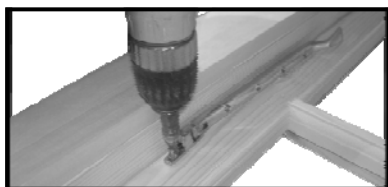

Fig A4
8. At the bottom of each window place a casement stay on top of the draught excluder strip. Visually judge the position of the stay so it looks central. Use a pin to judge how high to position the stay. Fix using 2 x 25mm screws (Fig A4).